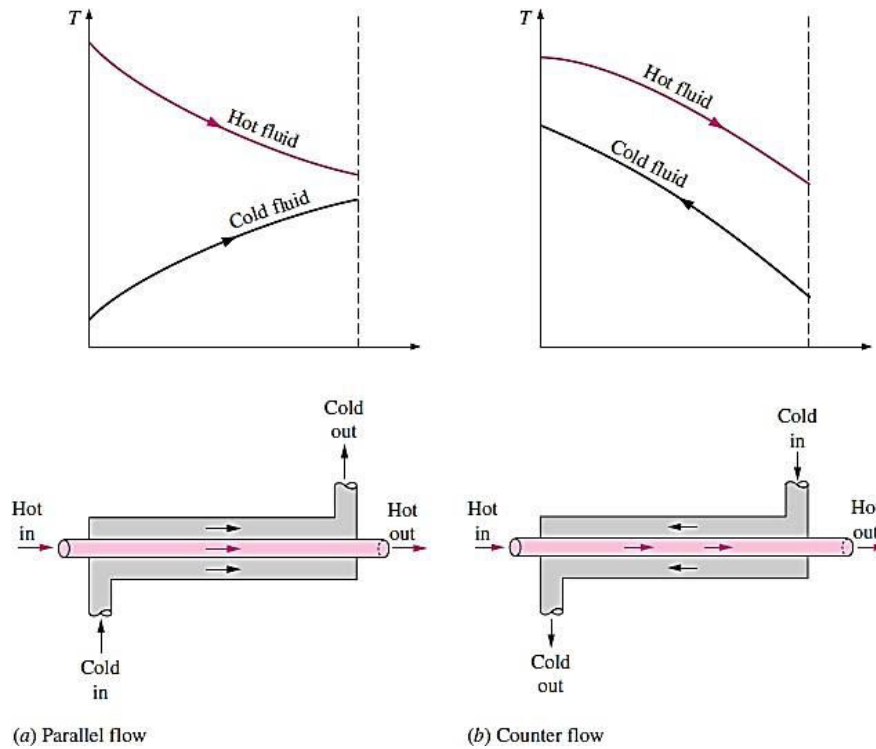

Fig.9.2 Different flow regimes and temperature profiles in a double-pipe heat exchanger
- The direction of flow may correspond to parallel or counter flow arrangement as shown in Fig.9.2.